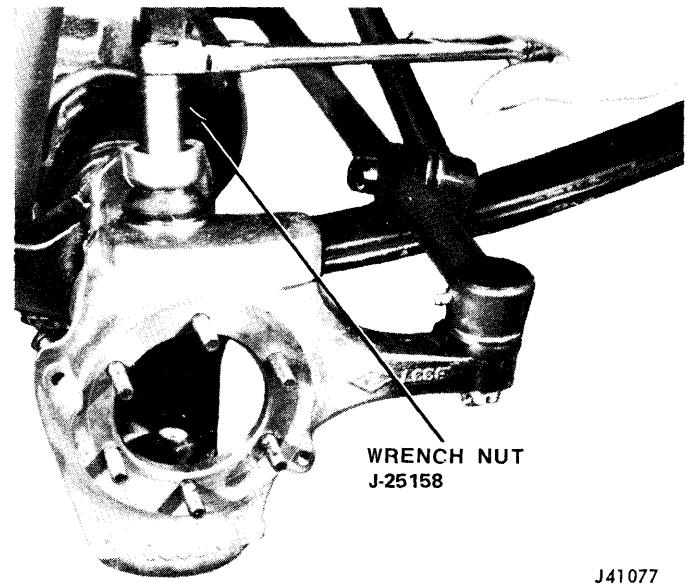

Fig. 10-12 Tightening Upper Ball Stud Seat
- (3) Use Nut Wrench J-25158 to tighten upper ball stud seat to 50 foot-pounds torque (fig. 10-12).
- (4) Install upper stud nut and tighten to 100 foot-pounds torque. Install cotter pin. If cotter pin holes do not align, tighten nut until cotter pin can be installed. Do not loosen nut to align holes.
- (5) Connect steering tie rod. Tighten nuts to 50 foot-pounds torque.